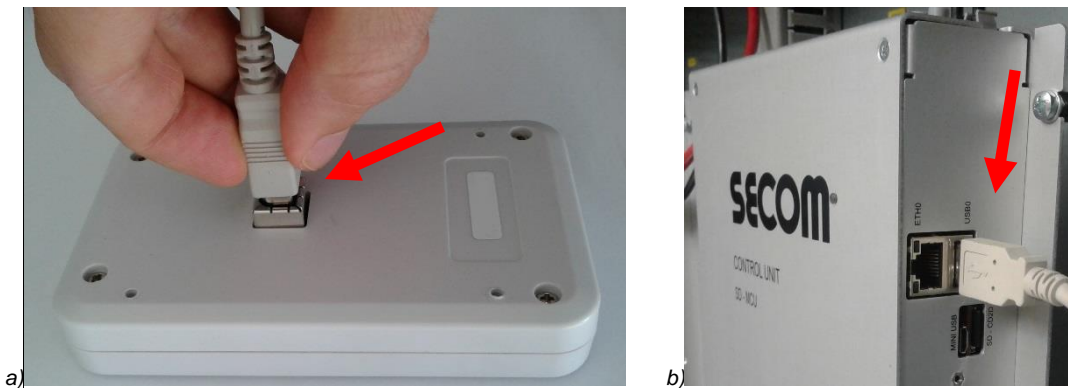

Fig. 4-20: SD-OP cable connection
The following bullet points and Fig. 4-20 explain how to connect an SD-OP:
- Connect the type-B end of the cable to the female B connector on the rear side of the SD-OP (see Fig. 4-20.a)
- Connect the type-A end of the cable to the female USB0 type A connector on the SD-MCU (see Fig. 4-20.b or Fig. 4-14)